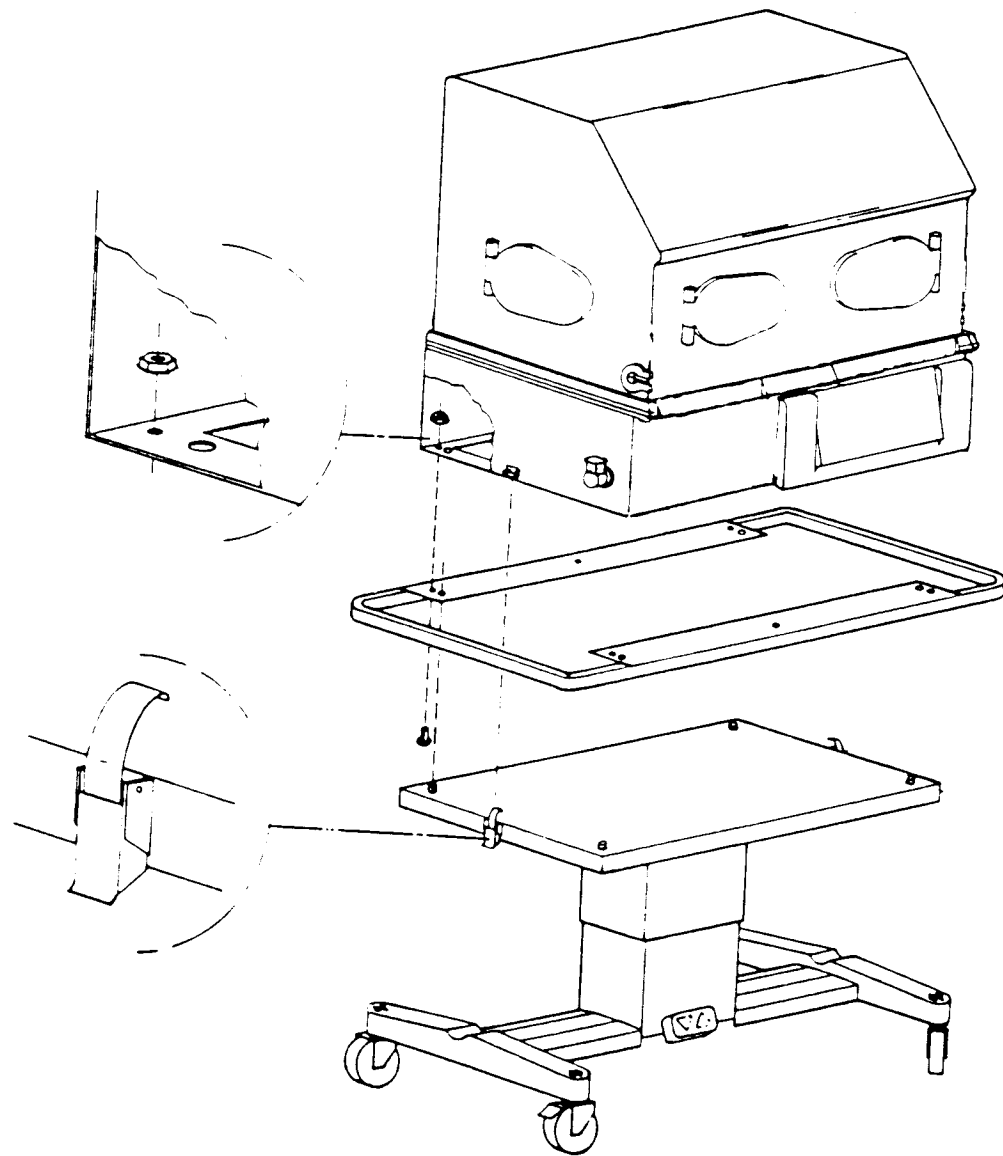

FIGURE 2.2 ASSEMBLY, INCUBATOR MOUNTED ON VHA CABINET STAND
- A. REMOVE THE CONTROLLER FROM THE INCUBATOR.** Attach the Guard Rail to the underside of the Base Assembly using the 6 bolts and Keps nuts supplied (see Figure 2.2.).
- B. PLACE THE GUARD RAIL AND BASE ASSEMBLY ON THE VHA (VERTICAL HEIGHT ADJUSTABLE) STAND** as shown in Figure 2.2.